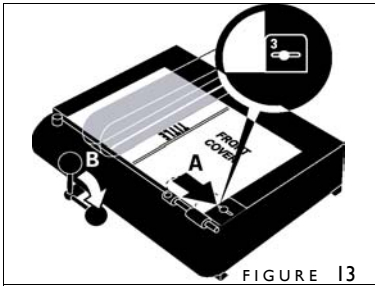

FIGURE 13
1. With your cover and the Centering Guide in their last positions, slide your cover over so its right edge (A) stops against step 3 (figure 13). Push the lever to the right to hold down your cover.